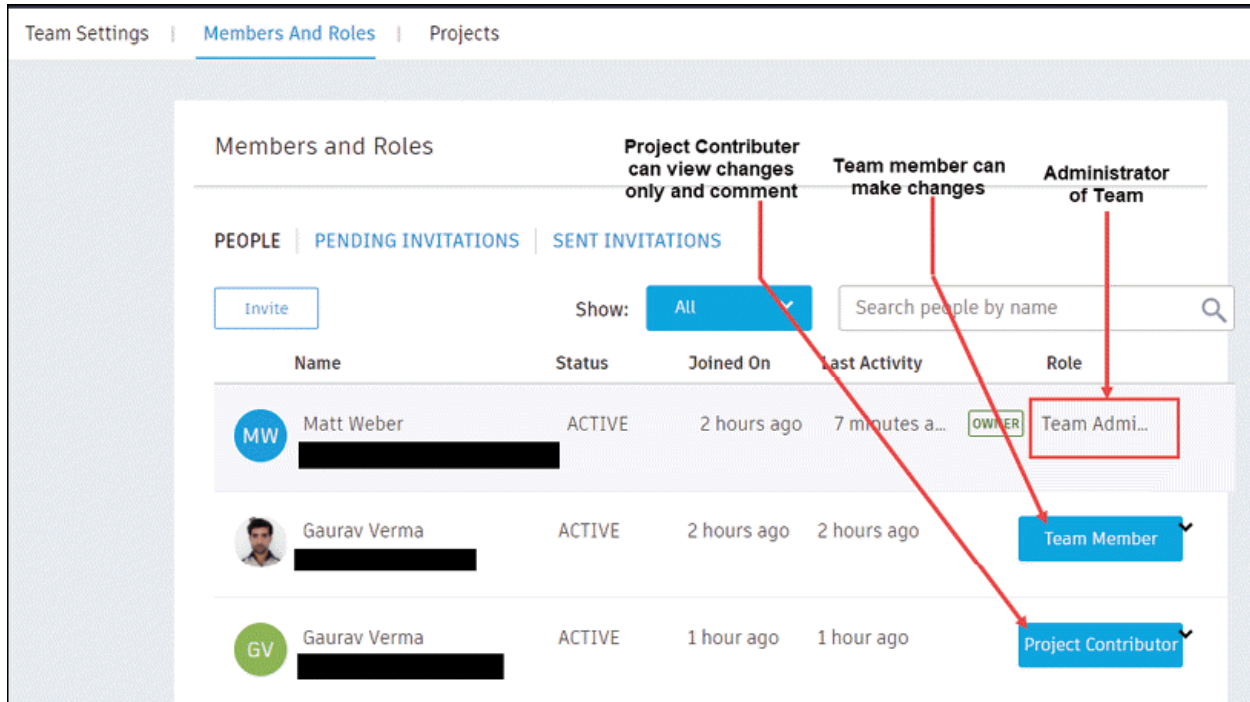

Figure-110. Members and roles page
- To add members in your team, click on the **Members and Roles** tab in the web page. The options will be displayed as shown in Figure-110.